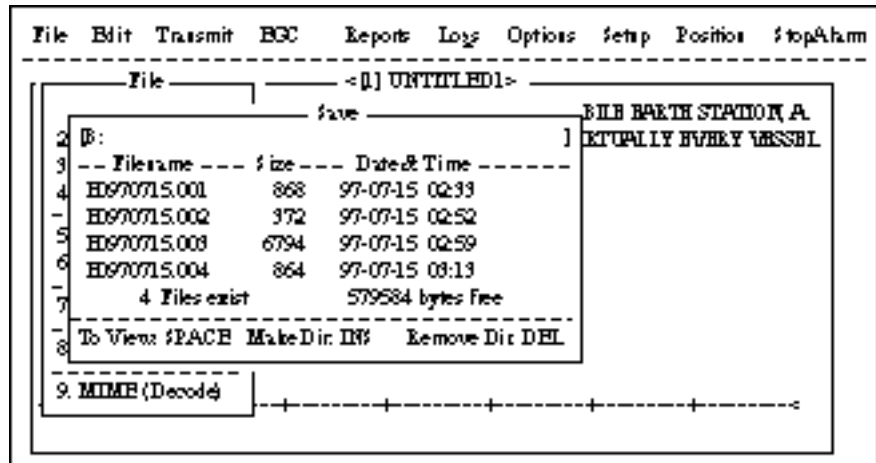

Figure 3-14 Save screen
2. Press [4]. The screen should look something like Figure 3-14.